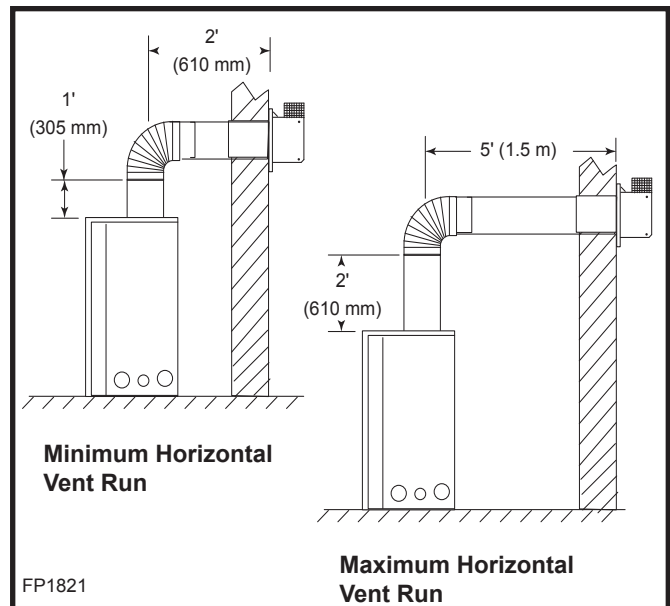

Fig. 15 Horizontal vent run.
- The maximum number of 90° elbows per side wall installations is three (3).
- **Must have a one foot (1'/305 mm) minimum vertical vent before attaching a 90° elbow to the unit. The maximum horizontal vent run before the termination is 24" (610 mm). (Fig. 15)**